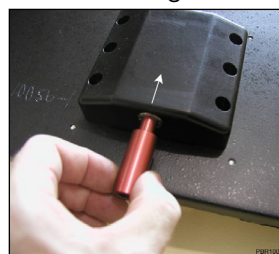
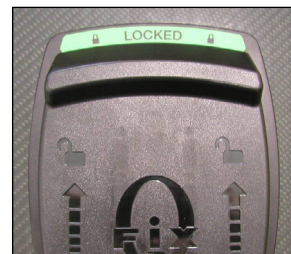

Fig. 26
Fig. 27
1. Push the male end of the red Alignment Pin into the socket in the block on the underside of the CT Overlay (Fig. 26) until the handle on the topside reads “LOCKED” (Fig. 27).